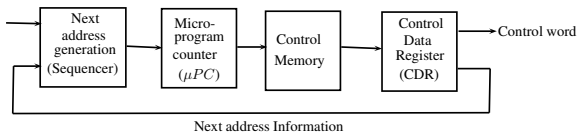

Figure 6: Microprogrammed Control organization
1. A microprogrammed control organization shown in figure 6 has the following propagation delay times: 40 ns to generate next address, 10 ns to transfer the address into the control address register, 40 ns to access the control memory ROM, and 40 ns to perform the required microoperations specified by the control word. What is the maximum frequency that the control can use? What is the maximum clock frequency be if the control data register is not used?